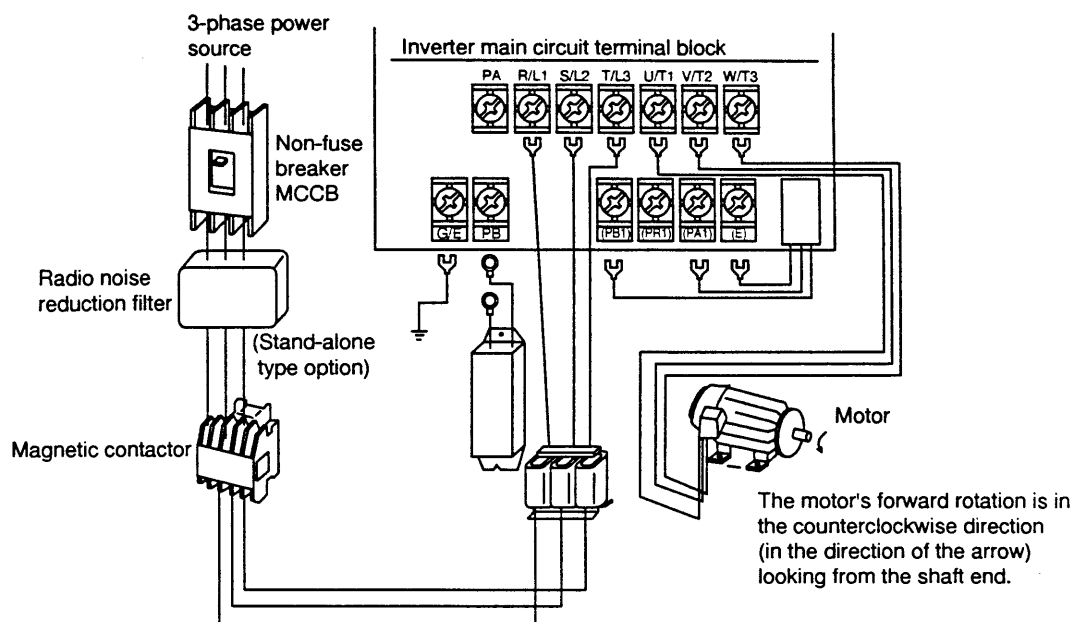

Fig. 5.1 Main circuit wiring
5.1 Connection to Main Circuit (Refer to page11, Fig. 5.1.)
The main circuit wiring is shown in Fig. 5.1.